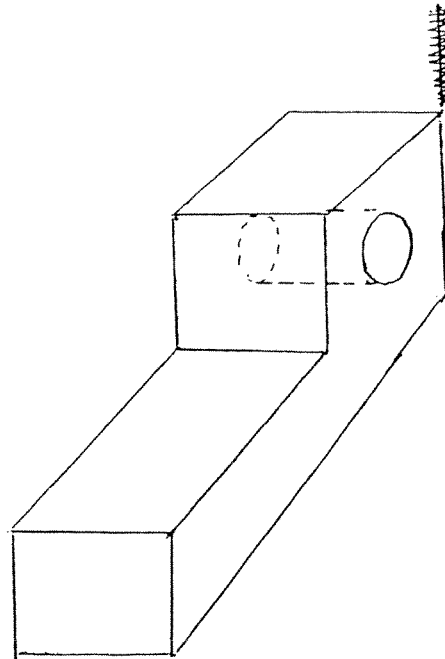

Fig Q4(c)
- (c) (i) Show how the following object in Fig. Q4 (c) may be represented using CSG.